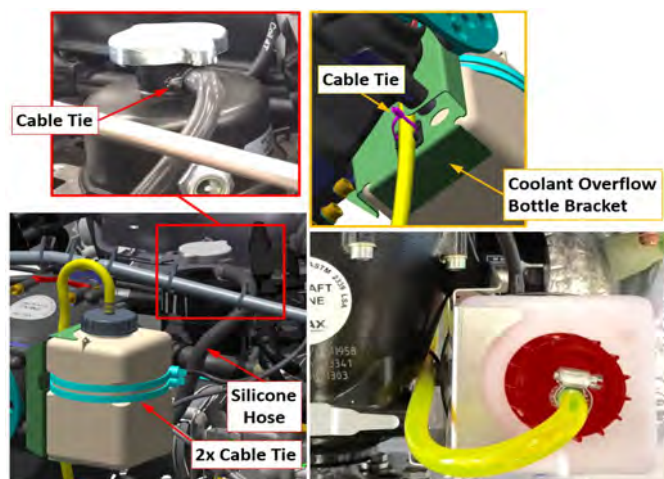

FIGURE 17-38
6. Install the coolant overflow bottle on the bracket using two TY29MX cable ties as shown in Figure 17-38. Orient the bottle with black silicone hose facing forward (away from propeller flange).
7. If installing new hoses, route and secure them as follows (see Figure 17-38):